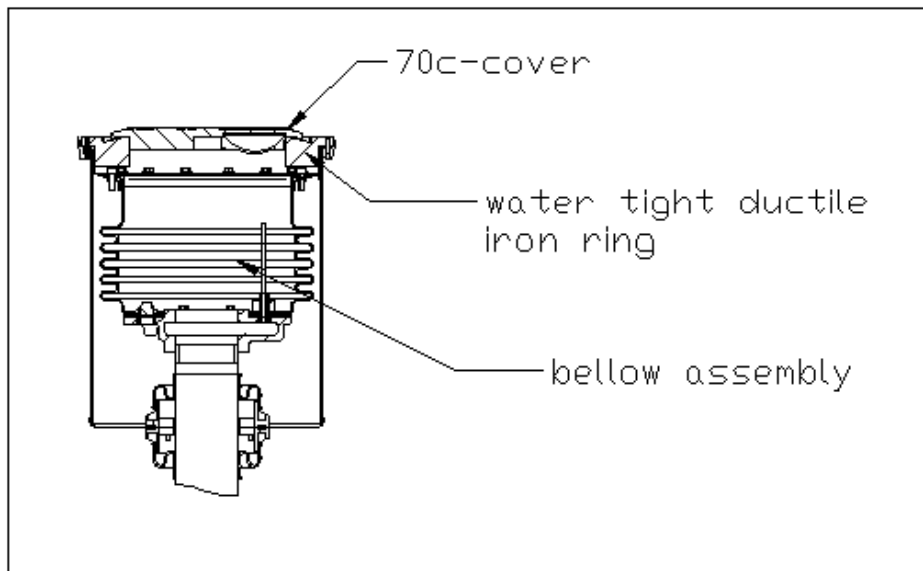

Figure 2
3. Universal Double Wall spill container is pre-assembled for consumer's convenience, however, remove 70c-cover, water tight ring, and bellow assembly. (See Figure 2)